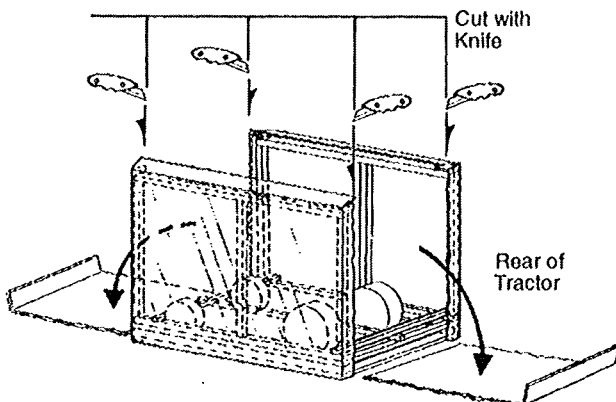

FIG. 1
TO REMOVE TRACTOR FROM CARTON (See Fig. 1 and 2)
- With a hammer, remove the three (3) thin slats from the two (2) rails of the top frame. Remove any exposed nails/staples from the rails.
- Fold cardboard down by cutting ends with a knife. See Figure 1. To avoid tire damage, cut as close to corners as possible.